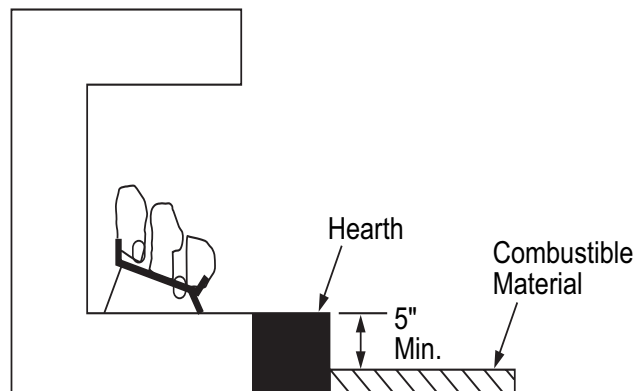

Figure 7 - Minimum Fireplace Clearances Above Combustible Flooring
- If combustible materials are less than 14" to the fireplace, you must install appliance at least 5" above the combustible flooring (see Figure 7).